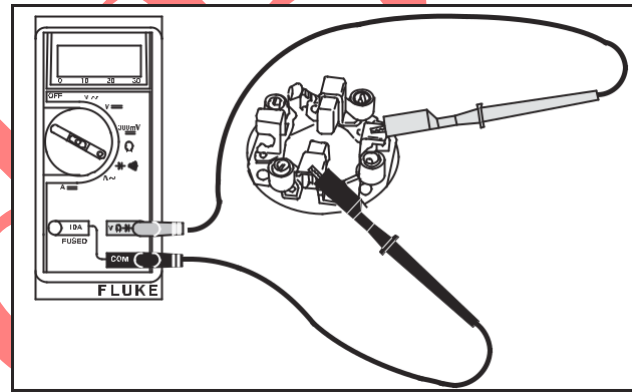

Fig. 71 – Checking Brushes
3. Attach either test lead to brush retainer, Fig. 71.